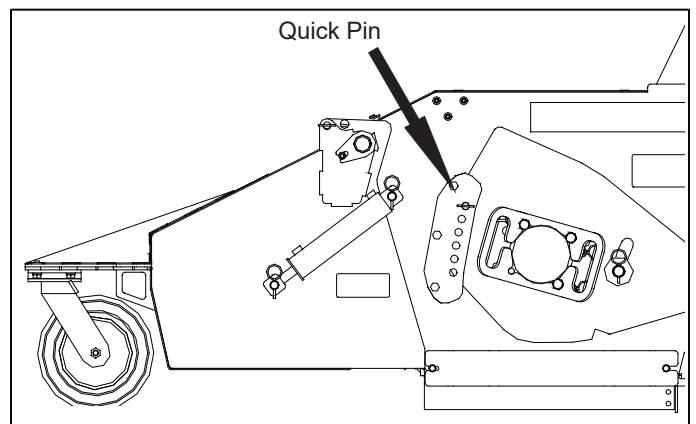

figure 2
- a. If brush pattern is too wide, pull quick pin, move it up one notch. Repeat on opposite side. (figure 2)
- b. If brush pattern is too narrow, pull quick pin, move it down one notch. Repeat on opposite side. (figure 2)